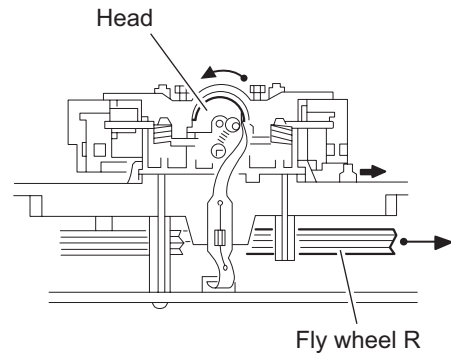

Fig.2
If the flexible wire is disconnected without attaching solder, the pickup may be destroyed by static electricity. (See Fig.2.)
- (1) While moving the trigger arm on the right side of the head mount in the direction of the arrow, turn the flywheel R counterclockwise until the head mount comes ahead and clicks.
- (2) The head turns counterclockwise as you turn the flywheel R counterclockwise (See Fig.2 and 3).
- (3) Disconnect the flexible wire from connector **CN31** on the head amplifier & mechanism control board.
- (4) Remove the spring from the back of the head.
- (5) Loosen the azimuth screw for reversing attaching the head.
- (6) Remove the head on the front side of the head mount.